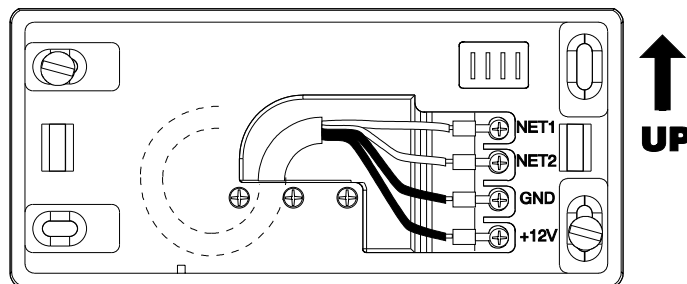

Figure 4: Wall position – horizontal position (single module)
5. Fasten the cable crimp to the contacts in the direction shown in Figure 4.